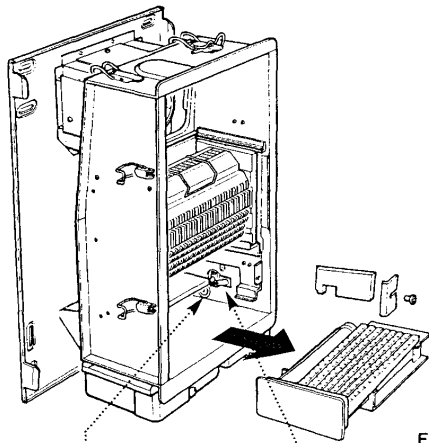

Fig. 113
10.10 Burner (Fig. 113)
1. Release and remove the burner injector which Fig. 113 is screwed into the burner feed manifold.
1. Remove the right hand side insulation carrier bracket by releasing the screw. Remove the side insulation panel (Fig. 113).